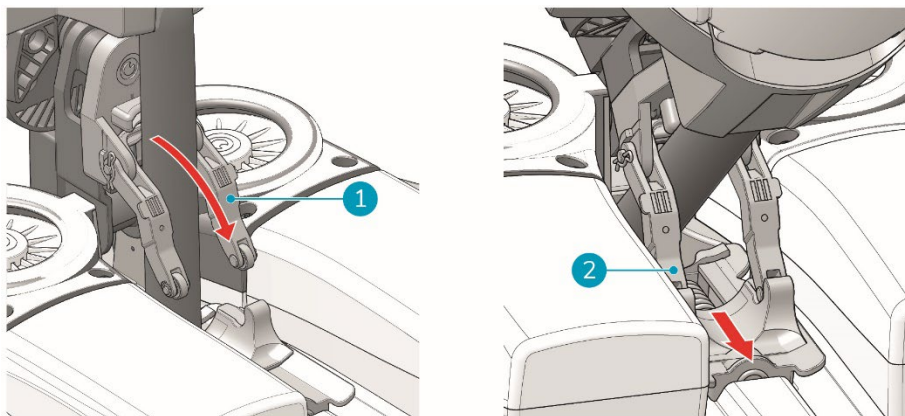

Figure 23
1. Lift the main body of the i-mop XL Pro to vertical position. The bracket of the i-mop XL Pro will automatically pop out, Figure 23, pos 1.
2. Lean back the main body of the i-mop XL Pro. The rollers on the bracket will be pushed against the spring-operated bracket holder, Figure 23, pos 2.